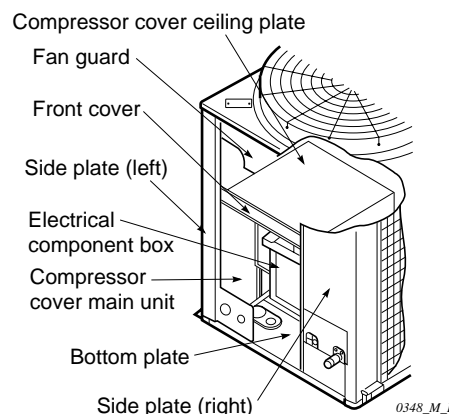

Fig. 1
- (1) Remove the fan guard shown in Fig. 1 (4 screws).
- (2) Remove the cover in front of the compressor cover ceiling plate (2 screws).
- (3) Remove the compressor cover ceiling plate (2 screws).